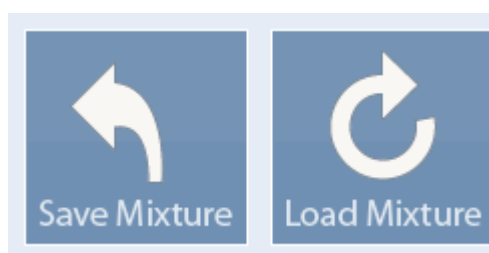

Fig. 28
7. The Gas Blender 100 Series allow you to work with dynamic gas mixture. Nevertheless the frequent use of a specific mixture (i.e. a specific instrument configuration) may be required. (Fig. 28) Use the **Save Mixture** command to store your desired mixture configuration in the instrument memory and the **Load Mixture** command to recall it whenever you need it. The Saved mixture will be automatically reloaded at each instrument start-up.